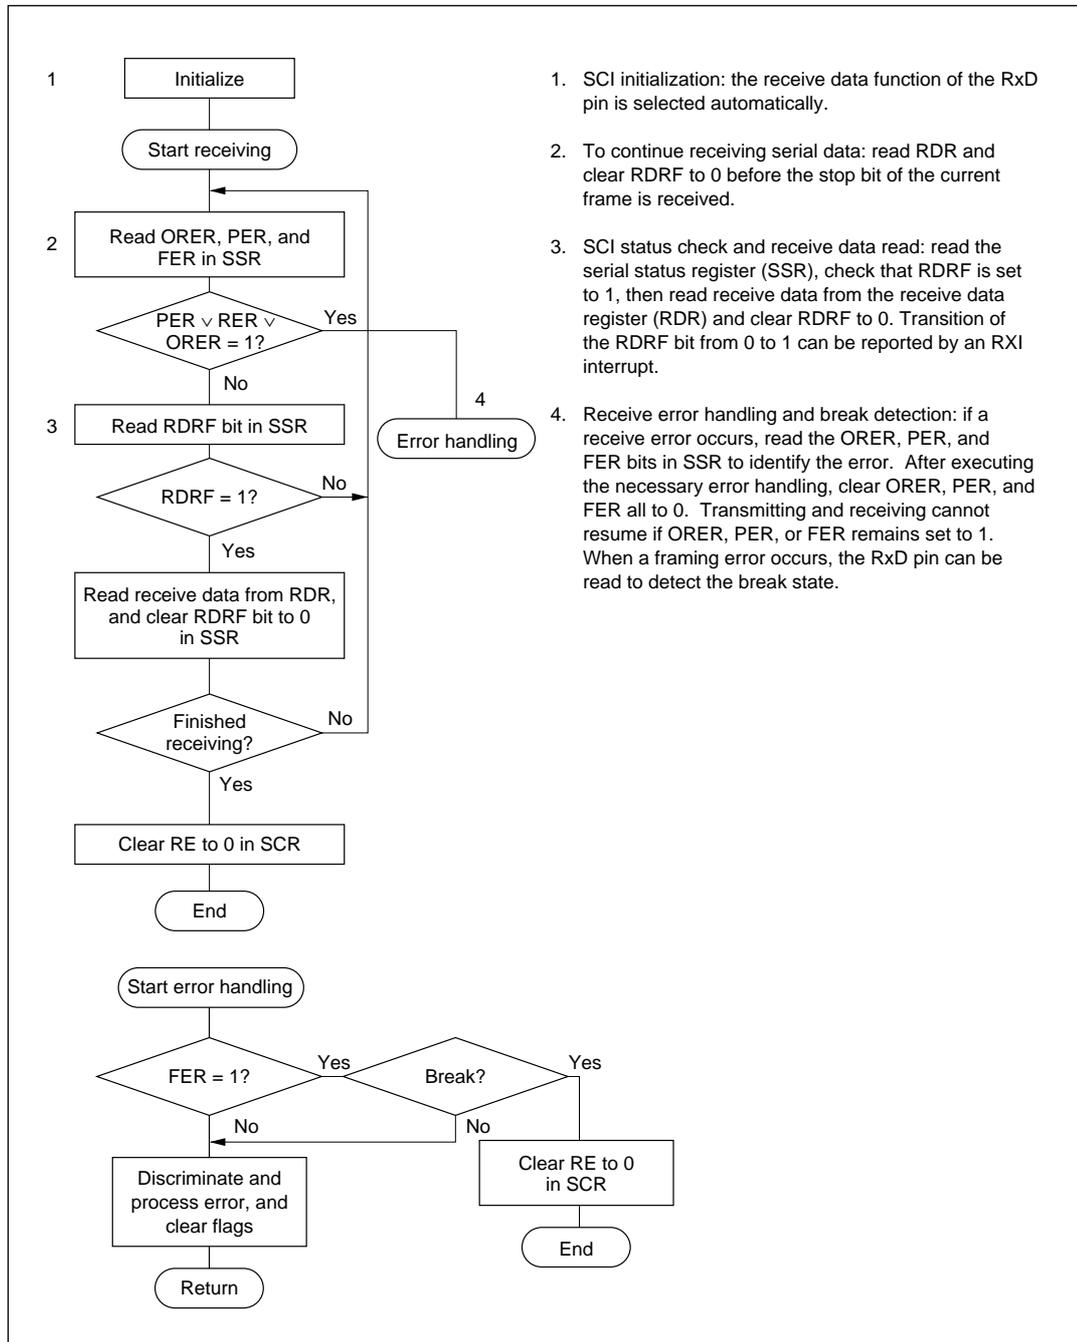

Figure 12-7 Sample Flowchart for Receiving Serial Data
- **Receiving Serial Data:** Follow the procedure in figure 12-7 for receiving serial data.